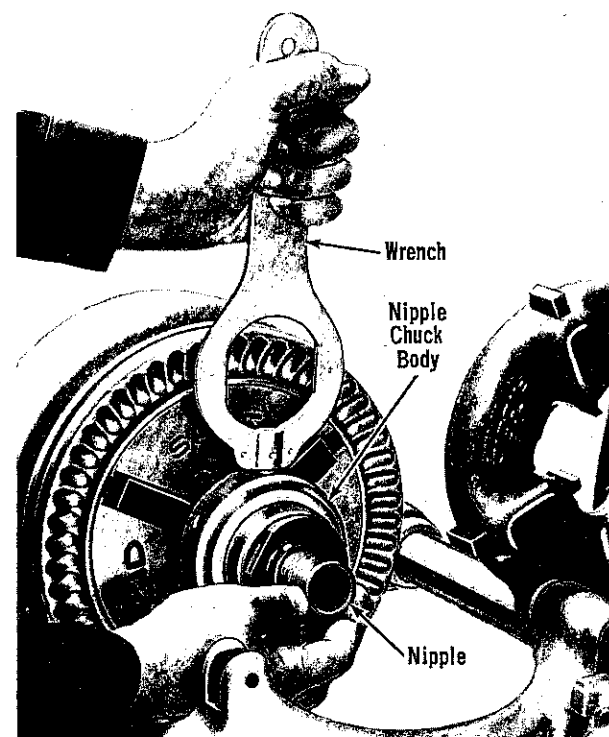

Figure 26. Releasing Nipple from Nipple Chuck.
6. Insert pin on end of Wrench (Fig. 26) into one of holes in Nipple Chuck Release Collar and turn. Remove threaded nipple by hand.